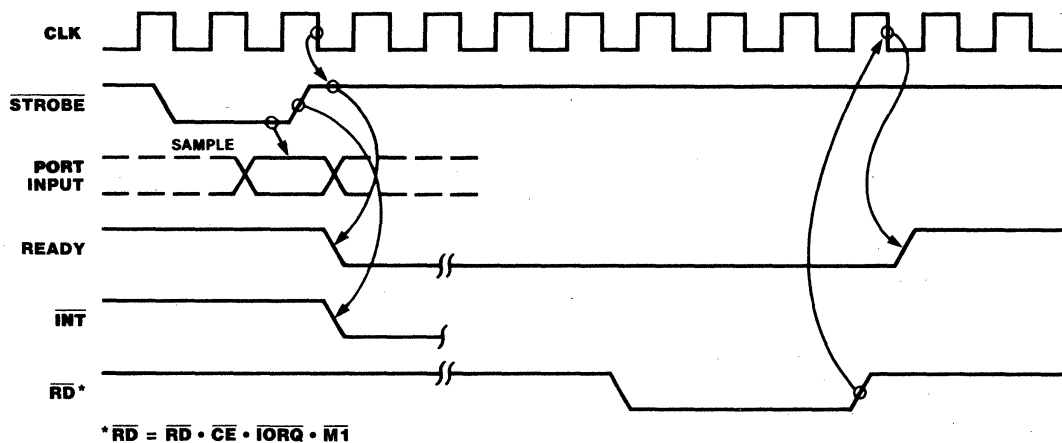

Figure 15. Mode 1 Input Timing
**Input Mode (Mode 1).** When  $\overline{\text{STROBE}}$  goes from Low to High, data is latched into the selected port input register (Figure 15). While  $\overline{\text{STROBE}}$  is Low, the input data latches are transparent. The next rising edge of  $\overline{\text{STROBE}}$  activates  $\overline{\text{INT}}$ , if Interrupt Enable is set and this is the highest-priority requesting device. The following falling edge of  $\text{CLK}$  resets Ready to an inactive state, indicating that the input register is full and cannot accept any more data until the CPU completes a read. When a read is complete, the positive edge of  $\overline{\text{RD}}$  sets Ready at the next Low-going transition of  $\text{CLK}$ . At this time new data can be loaded into the PIO.